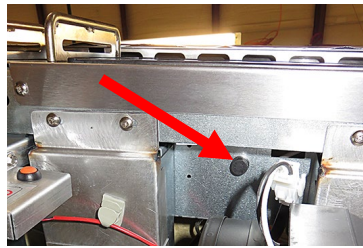
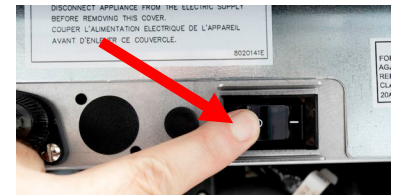

Figure 7
Figure 8
1. Disconnect the fryer from the electrical power supply. On gas fryers the fuse located under the bottom of the control box, can be removed, to remove power from individual control boxes (see Figure 7). Turn the fuse cap to remove. On electrical fryers, the individual fryer can be switched off (see Figure 8).